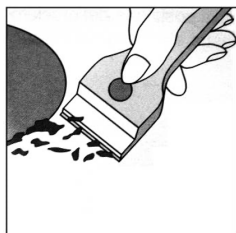

Fig. 1
- First, to remove all food residues or greases with a cleaning scraper, e.g. Cleaning scraper (not supplied) (Fig. 1).